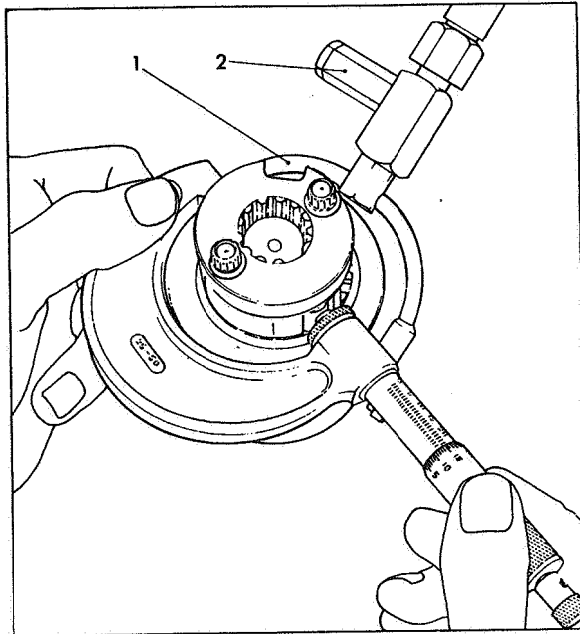

Fig 20 Measuring roller to roller dimension
Fit the Stirrup Pipe Tool Part No 7144-262A (1) Fig 20 (part of Tool Part No 7144-262) to two of the high pressure outlet ports on the head as shown and connect it to a nozzle testing unit. Operate the nozzle testing unit to raise the pressure to the figure specified in the Test Data sheet (generally 30 atm).